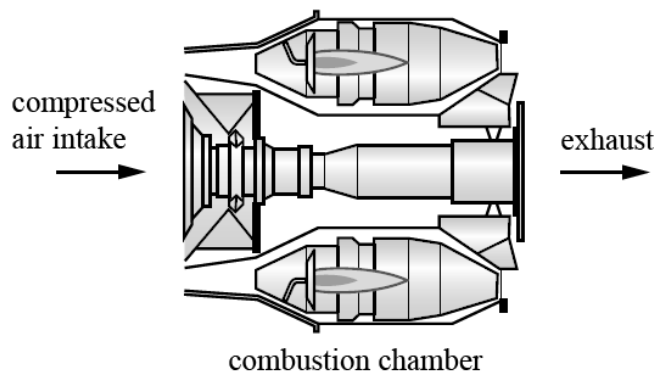

Fig. 6
- 6 An aeroplane engine uses a combustion chamber to power a gas turbine. A schematic diagram of a combustion chamber is shown in Fig. 6.